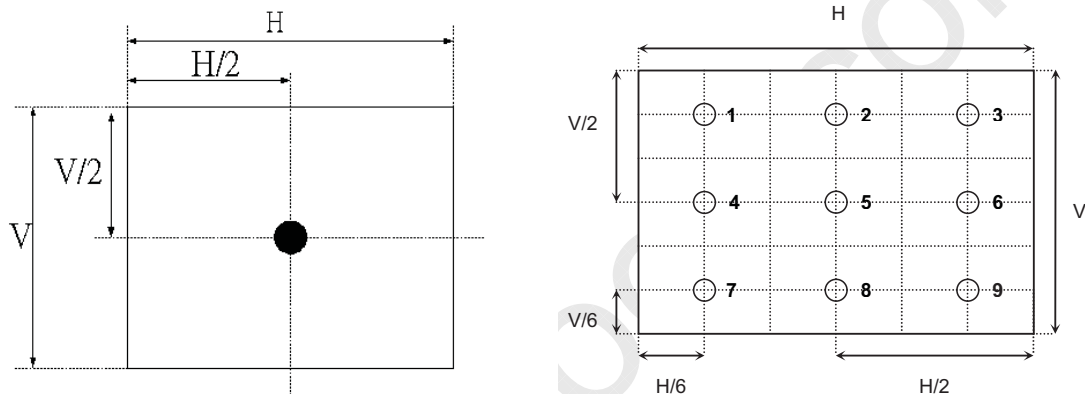

Fig.4-2 Optical measurement point
2. Surface luminance is luminance value at point 1 across the LCD surface 50cm from the surface with all pixels displaying white. From more information see Fig. 4-2. When  $V_{DDB} = 24V$ ,  $I_{DDB} = (7.3A)$ .